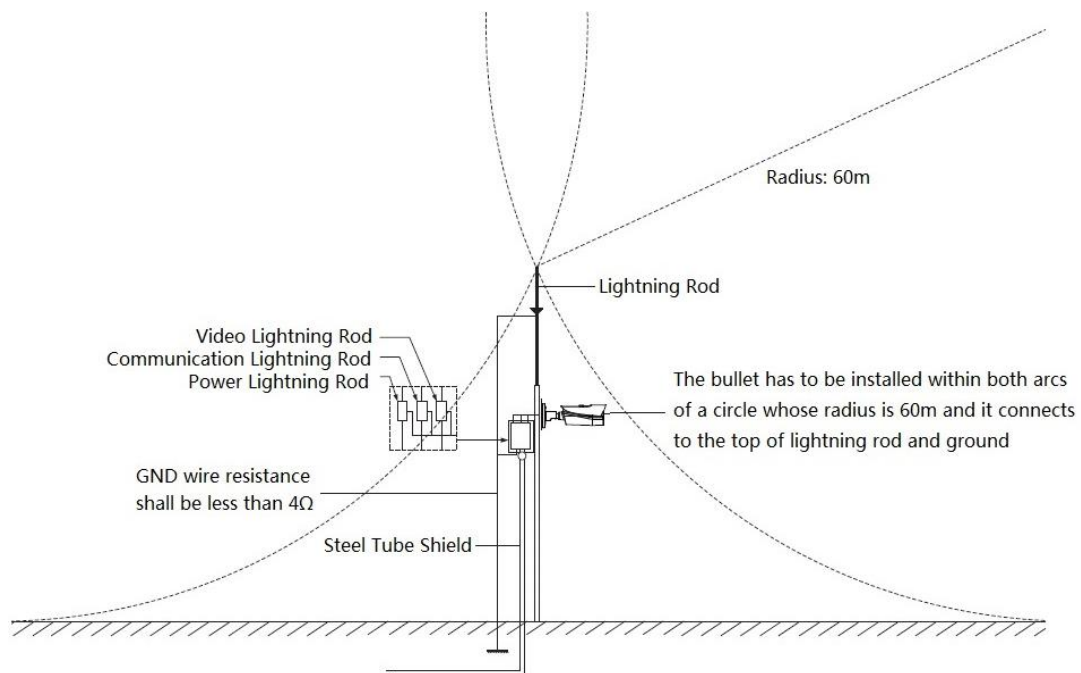

Figure 6-1
- System shall adopt equal-potential wiring. The earth device shall meet anti-jamming and at the same time conforms to your local electrical safety code. The earth device shall not short circuit to N (neutral) line of high voltage power grid or mixed with other wires. When connect the system to the earth alone, the earth resistance shall not be more than  $4\ \Omega$  and earth cable cross-sectional area shall be no less than  $25\ \text{mm}^2$ . See Figure 6-1.